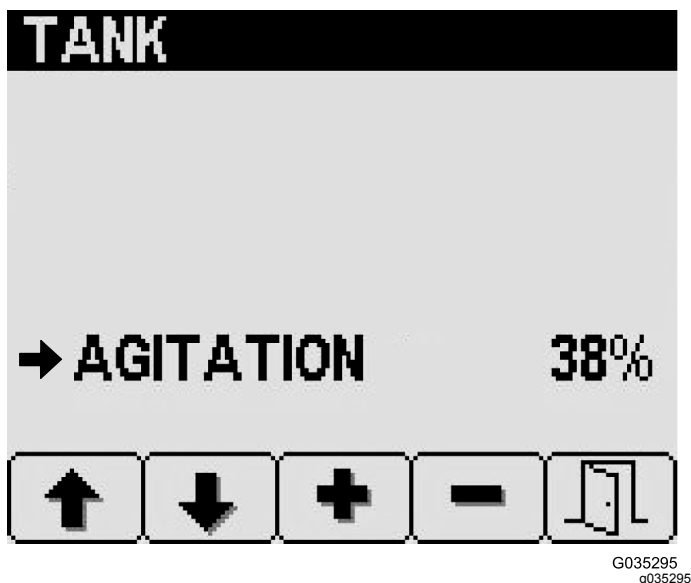

Figure 24
2. At the Tank screen, press button 2 to navigate to the Agitation option (Figure 24).
3. Press button 3 (raise) or button 4 (lower) to adjust the percent of sprayer-pump flow used for tank agitation (Figure 24).